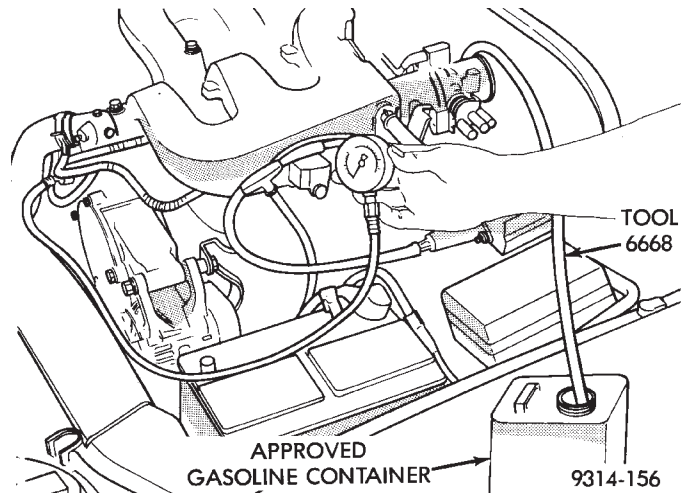

Fig. 31 Fuel Return Line Adapter
- If pressure is still above specifications, remove fuel return hose from chassis fuel tubes (at engine). Attach Fuel Pressure Test Connect Adapter 6668 to the fuel return tube and place other end of hose in clean container (Fig. 31). Repeat test. If pressure is now correct, check for restricted fuel return line. If no change is observed, replace fuel pressure regulator.